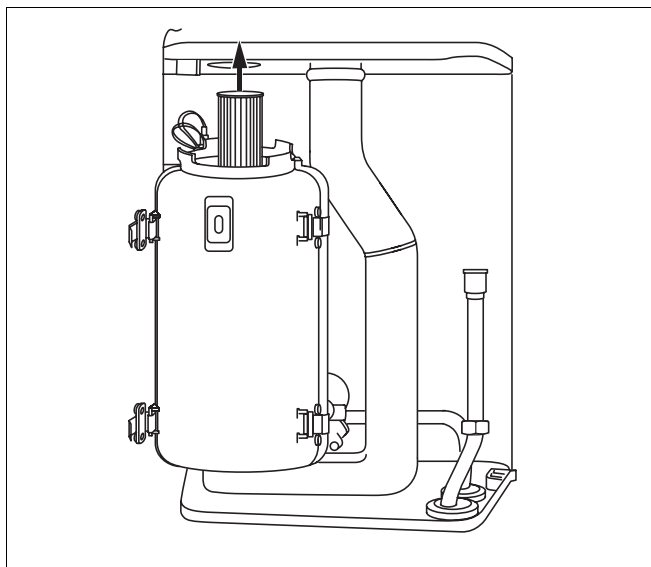

Fig. 43 Remove burner
- Remove burner by pulling upwards through the opening (fig. 43).